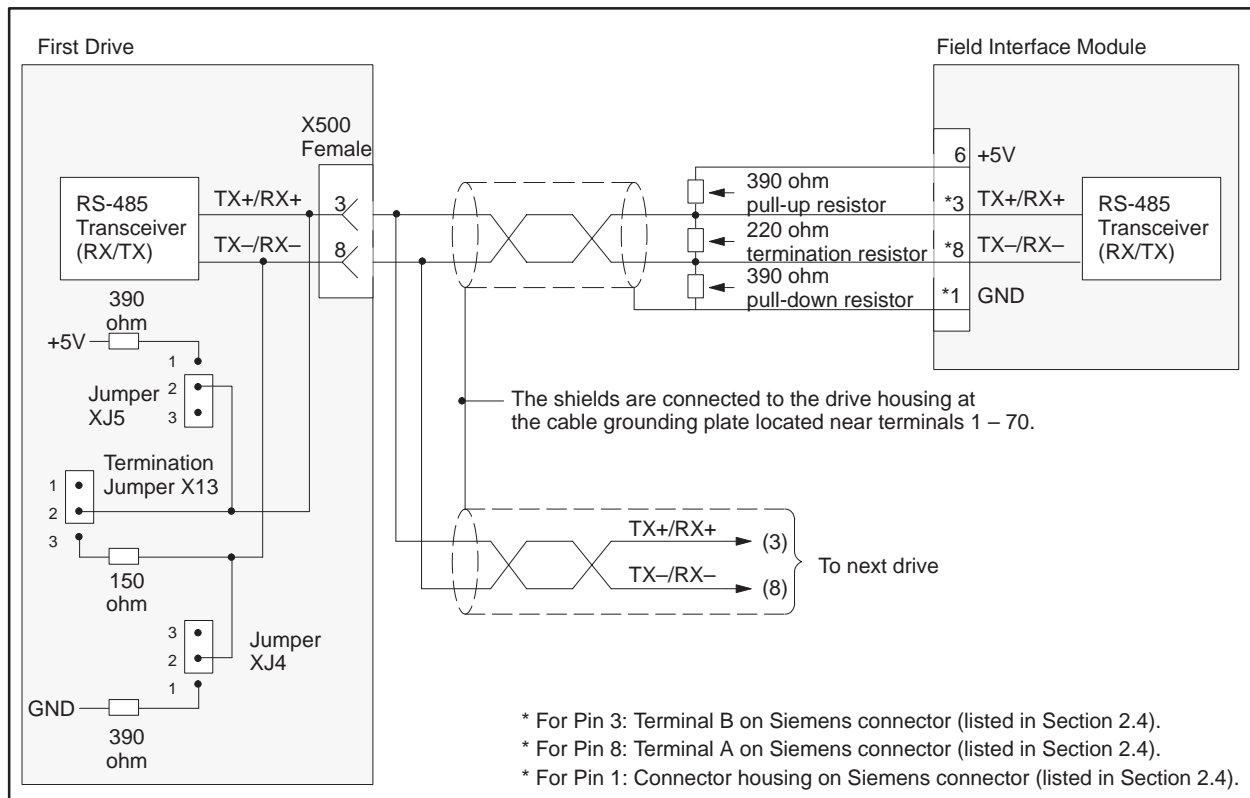
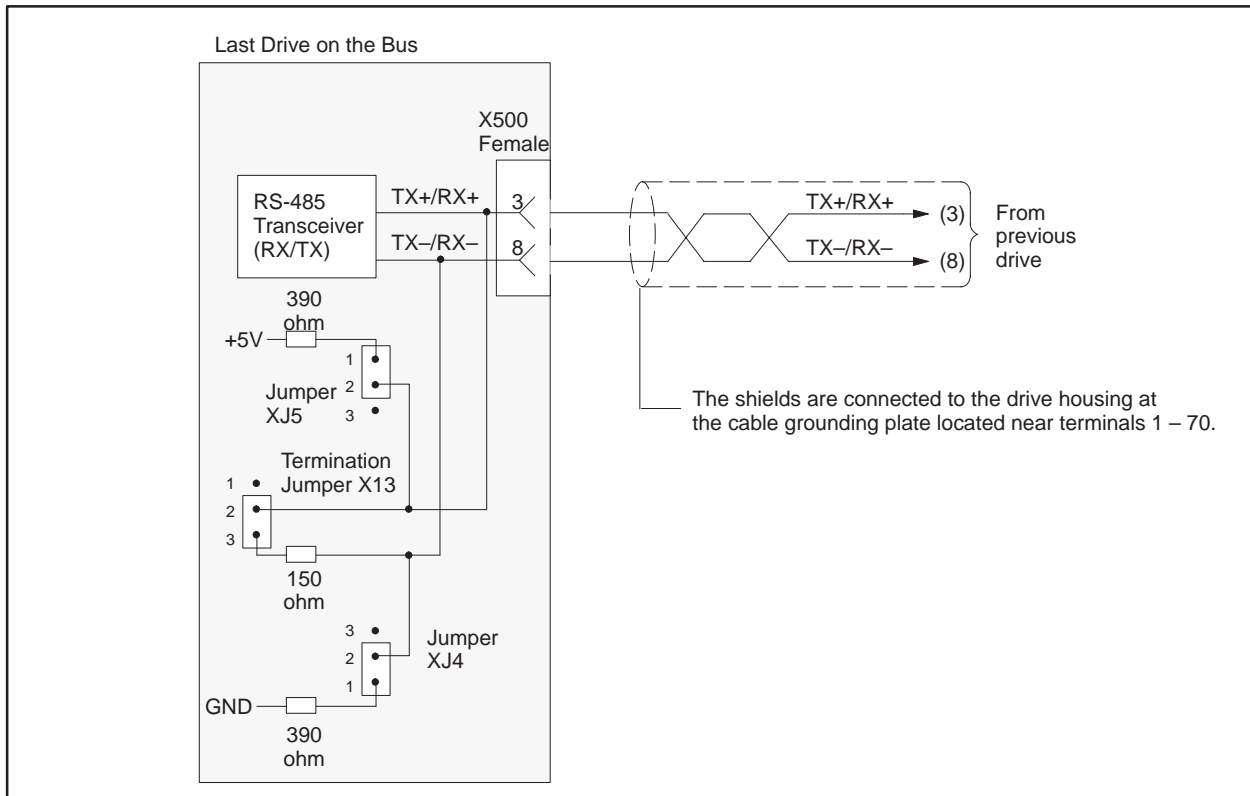

Figure 3-20 6RA24 Wiring: All Drives Except at End of Bus
Figure 3-21 6RA24 Wiring: Drive at End of Bus
- XJ3 Figure 3-20 and Figure 3-21 show the correct position of this jumper.
- XJ4 Figure 3-20 and Figure 3-21 show the correct position of this jumper.
- XJ5 Figure 3-20 and Figure 3-21 show the correct position of this jumper.
Figure 3-20 shows the wiring for all drives except the end of the bus for the 6RA24.
Figure 3-21 shows the wiring for the drive at the end of the bus for the 6RA24.